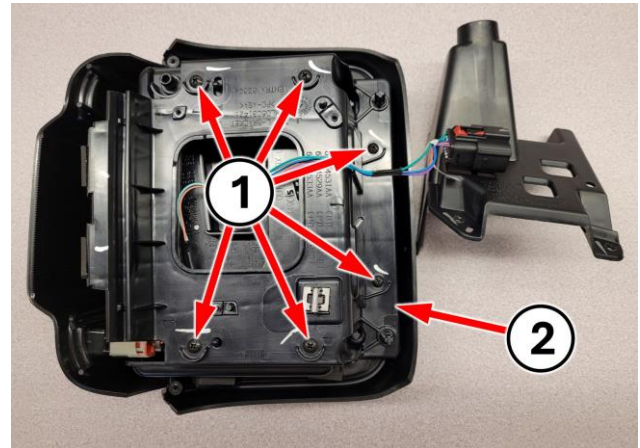

Figure 12 – Lamp Spacer
10. **NEW lamp:** Remove the six screws (1) securing the lamp spacer (2) to the lamp (Figure 12).
11. **NEW lamp:** Remove the lamp spacer (2) from the lamp (Figure 12).